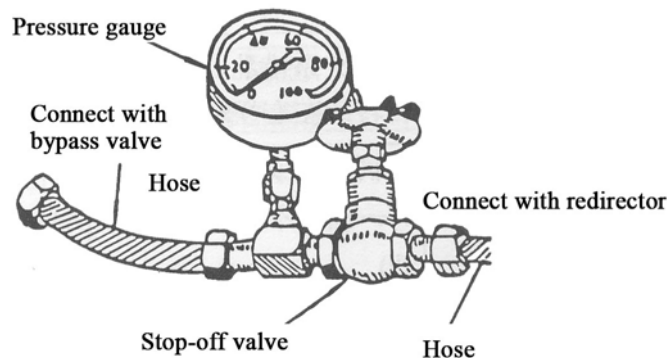

Fig 6.6 Measuring Pressure
- (1) Check the arrangement of hydraulic pipeline whether proper, left and right steering whether assembled crossly.
- (2) Turn steering wheel right-and-left and to the limit. Check the left and right force whether even and turning whether stable.
- (3) Lift turning wheel after the steering system assembled, start the engine in idle speed, then slowly turn the steering wheel right-and-left and repeat several times, to exhaust the air in the hydraulic pipeline and steering cylinder. Lower the turning wheel and turn the steering wheel several times. Check the turning sound whether proper. If abnormal noise cannot be heard, it means the air has been exhausted fully, then run the engine under idle speed to increase oil temperature.
- (4) Measure steering operation force: park the forklift on a dry and flat road and use parking brake, fix the spring balance device on the wheel edge of steering wheel to measure the steering operation force, the force must be lower than 150N.
- (5) In order to measure the pressure, pressure gauge is required (15-20MPa), stop-off valve and hose shall be connection as shown in Fig 6.6.